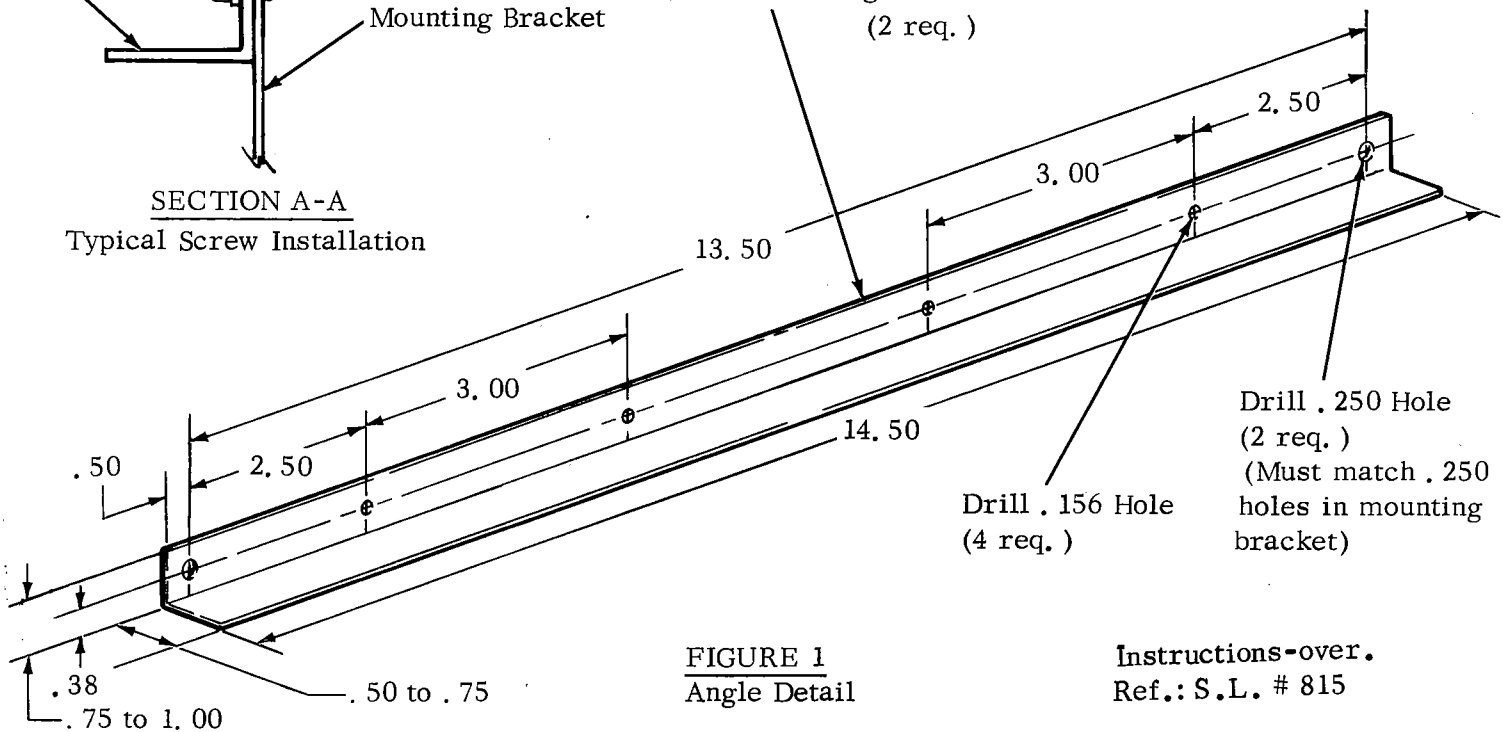

FIGURE 1
Per Figure 1
- (1) Remove radar antenna drive unit mounting bracket from airplane.
- (2) Fabricate two angles per Figure 1.
- (3) Locate and drill (4) .156 holes and (2) .250 holes in each angle per Figure 1.
- (4) Locate and drill (8) .156 holes in mounting bracket, as shown using the two angles fabricated in step (2) and (3) as a template.
- (5) Attach the two angles to the mounting bracket using hardware as shown on Sketch "A".
- (6) Reinstall mounting bracket assembly to bulkhead using existing hardware for attachment.